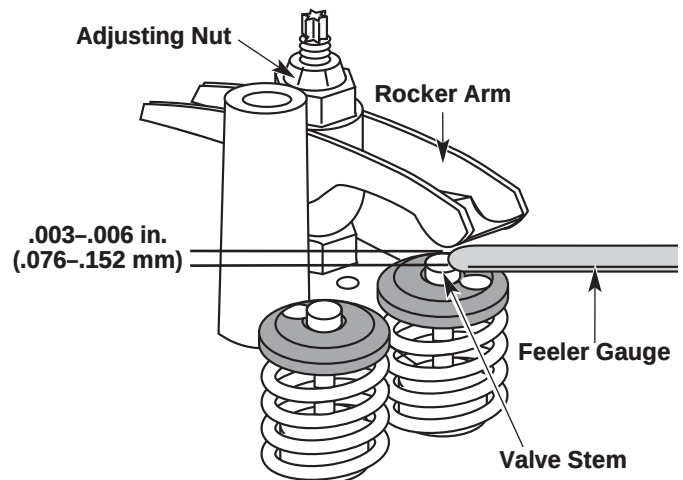

Fig. 55
- a. Turn the adjusting nut using a 5/16 inch (8 mm) wrench or nut driver (Fig. 55).